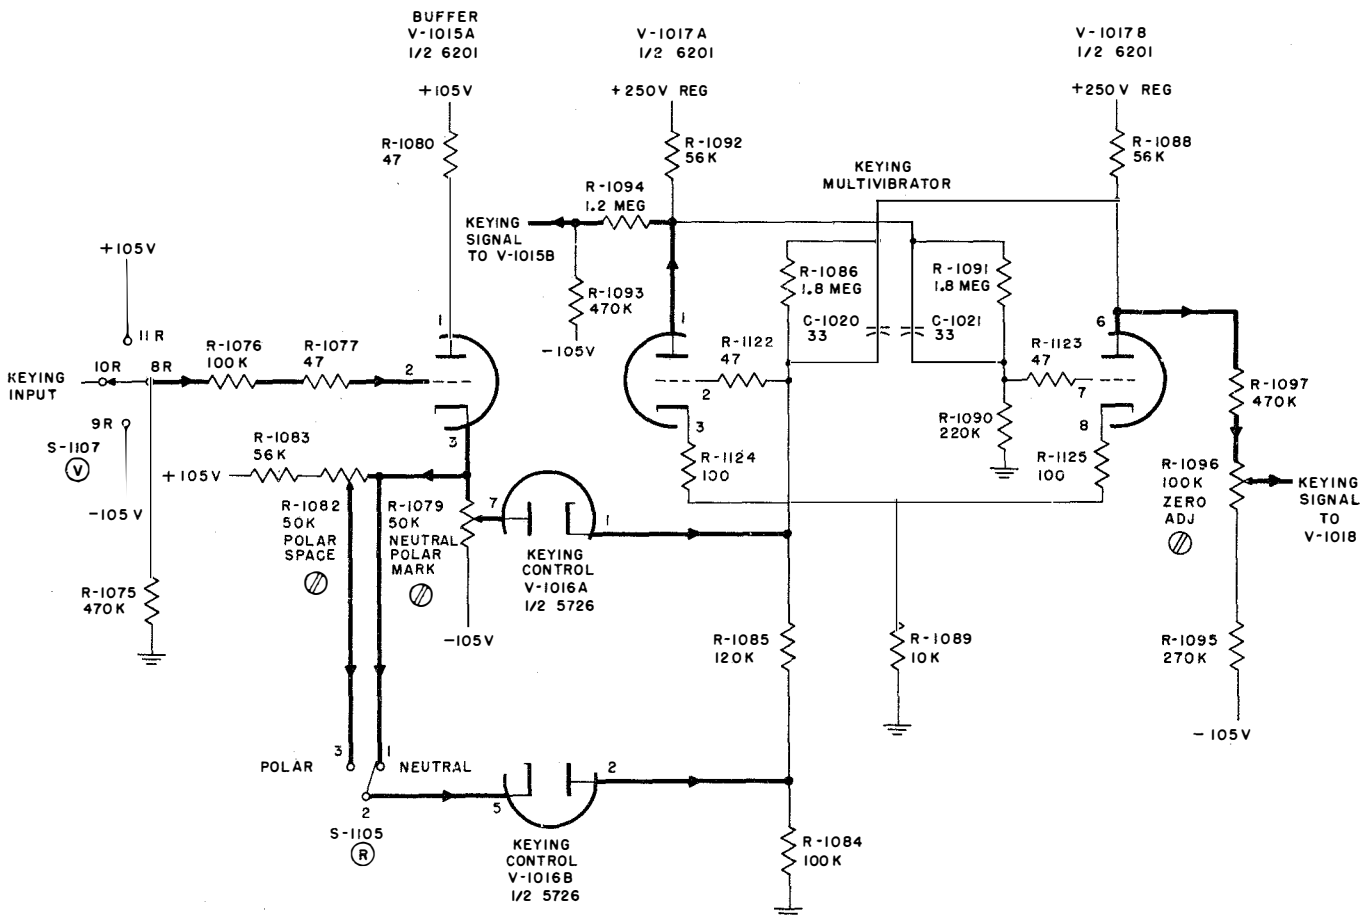

Figure 2-81. Cathode Follower V-1015A, Keying Control V-1016 and Keying Multivibrator V-1017B, Simplified Schematic
(2) BUFFER V-1015A.—The buffer, V-1015A (figure 2-81), is a cathode-follower stage whose purpose is to isolate the action of the keying control and the keying multivibrator, which follow, from the keying input signals. The cathode of V-1015A is power biased to -40 volts by the voltage-divider action of R-1083, R-1082, and R-1079 from the regulated +105 volts to the regulated -105 volts. The keying voltages for the different modes of operation as defined in the previous
(3) KEYING MULTIVIBRATOR V-1017 AND KEYING CONTROL V-1016.—Keying multivibrator V-1017 (figure 2-81) is a flip-flop multivibrator. In the key-up (space) condition V-1017B conducts, causing current to flow through the common cathode resistor R-1089, the voltage developed across R-1089 being sufficient to cut off V-1017A. Keying control V-1016B assures that V-1017B conducts and V-1017A is cut off during space. The plate of V-1016B is connected to the junction of R-1085 and R-1084 in the grid circuit of V-1017A. Disregarding the action of V-1016B, this